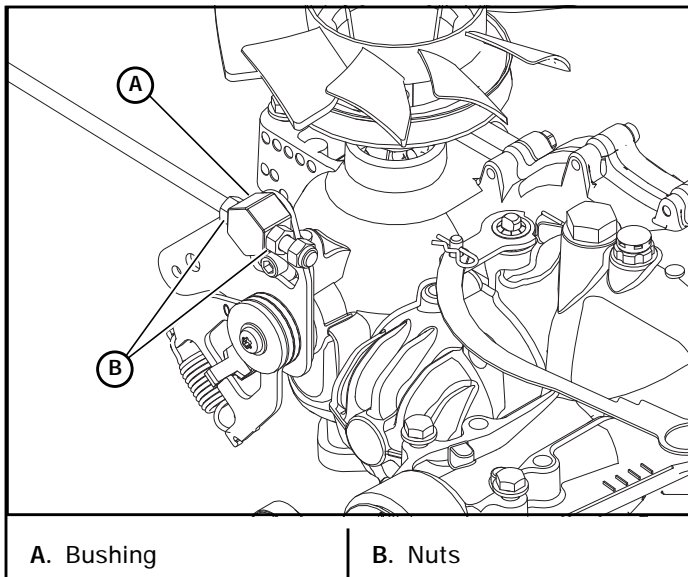

Figure 4-2
5. Loosen the nuts adjacent to the steering bushing. Figure 4-2
7. Tighten the nuts against the steering bushing (Figure 4-2). Torque the rear nut to 14 ft-lbs (19 N•m). Verify that the steering arm is still in the park brake position and that the pump arms are still in the neutral position. Figure 4-2